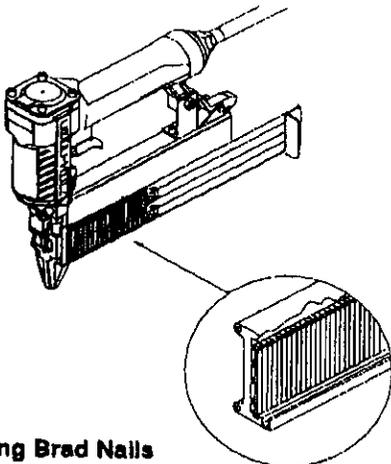

Figure 2-Loading Brad Nails
Refer to Figures 2 & 5 (pages 3 and 6).
- Depress latch (Key No. 59) and slide magazine cover (Key No. 52) backwards (see Figure 2). Insert brad nails into magazine. Position brads at bottom of magazine with brad head towards top of tool.